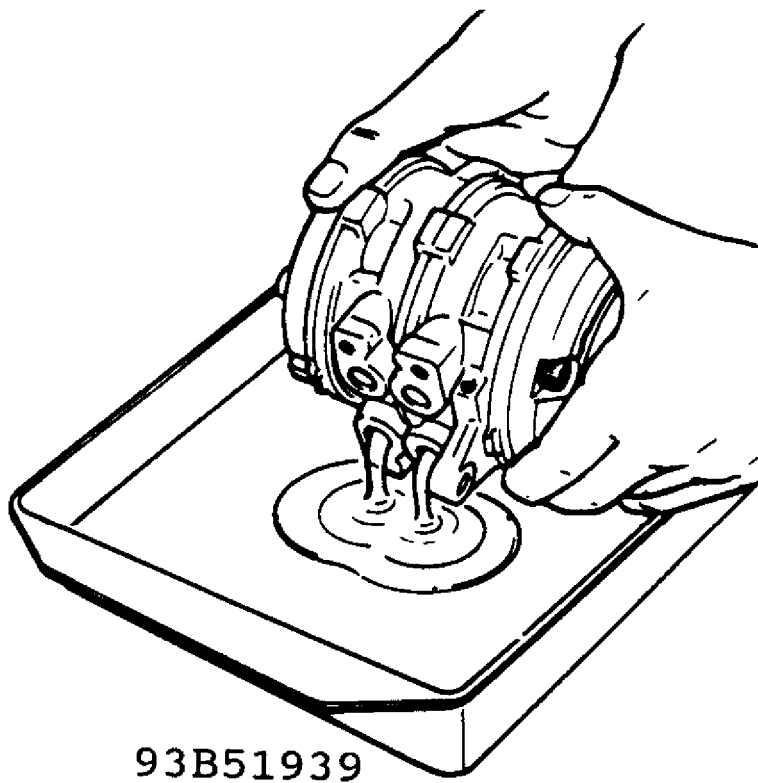

Fig. 15: Location of Oil Drain Holes
8. Drain oil into container. See Fig. 15.